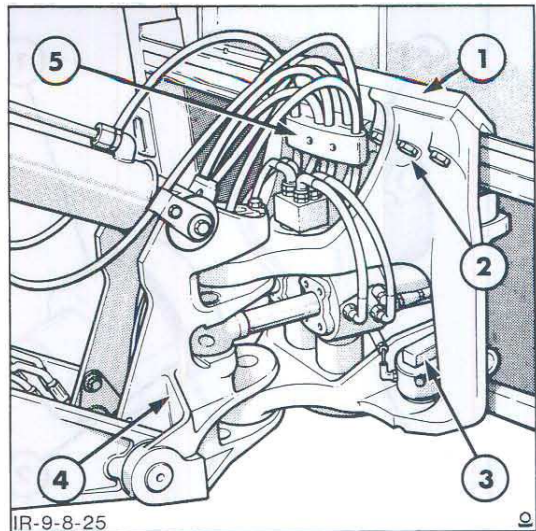

Figure 7
- Remove the bolt securing the clamping cylinder bellcrank pivot pin. Withdraw the pin and remove the bellcrank. Refer to Figure 7.